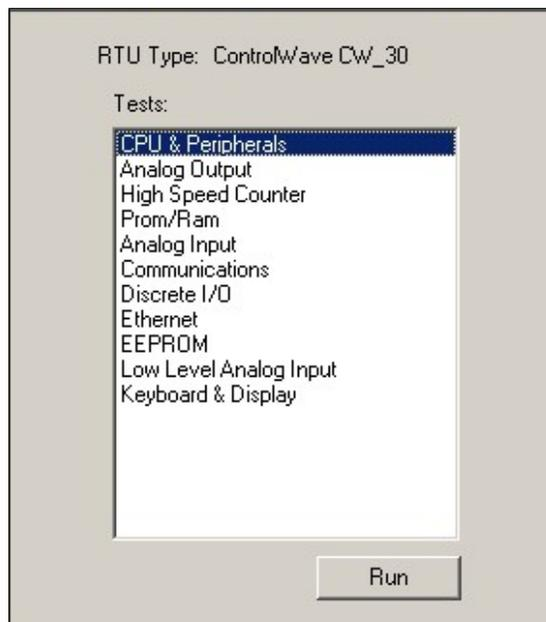
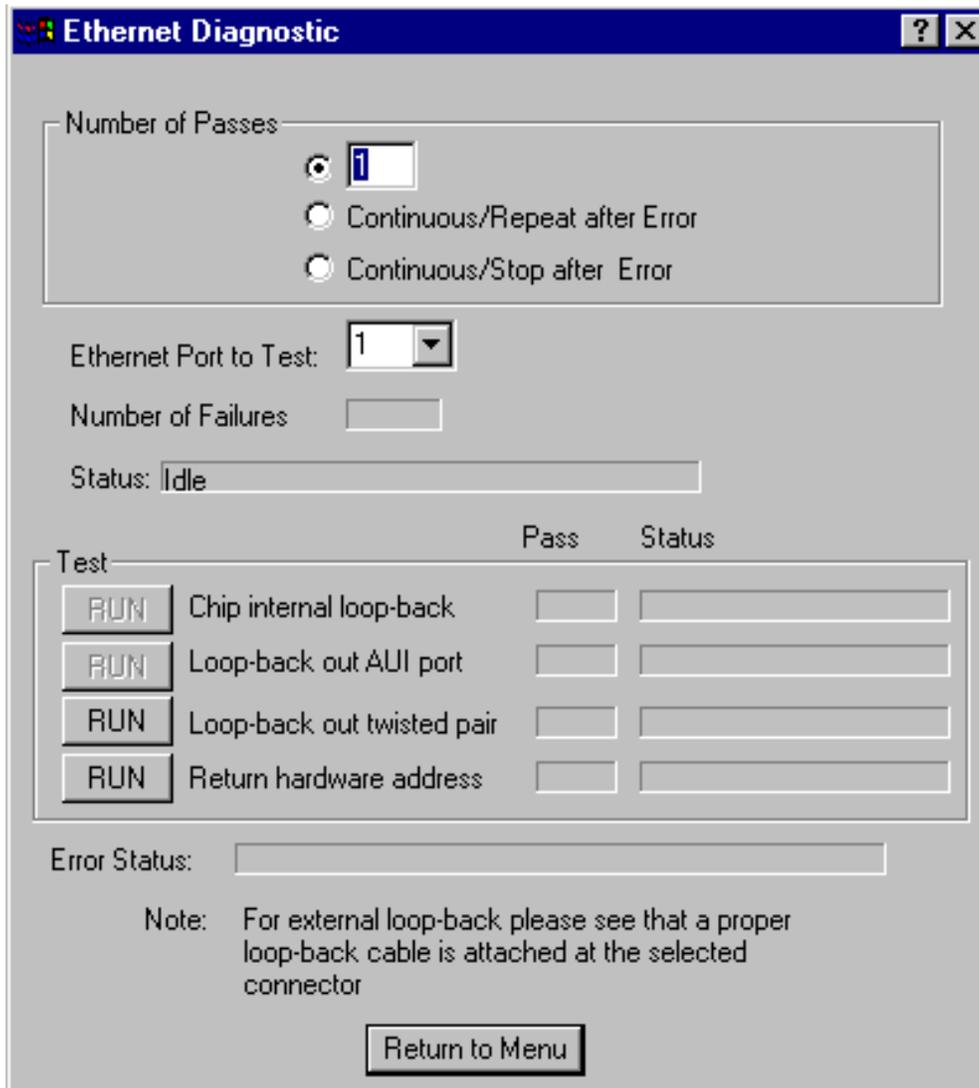

Figure 23 - WINDIAG Main Diagnostics Menu
Figure 27 - Ethernet Diagnostic Menu
3. Once WINDIAG has been entered, the Main Diagnostics Menu of Figure 23 will appear.
CW_35/CW_31 electronics can be tested using the WINDIAG program. From WINDIAG's Main Diagnostics Menu (see Figure 23) the following diagnostic tests can be performed:
The Ethernet Diagnostic menu of Figure 27 is entered from the WINDIAG Main Diagnostic Menu (Figure 23). This menu provides four poke points (three associated with Ethernet circuitry test and one that provides the Return Hardware Address [which resides in FLASH]). These tests verify the operation and integrity of the PCNET (Ethernet) Controller and the Ethernet port hardware on the CPU Board and CB Board.